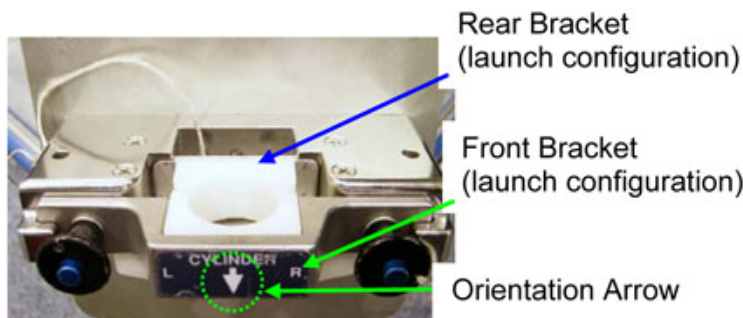

Figure 5.- Oxygen Bottle Retaining Bracket.
- 2.2 Rotate and install rear bracket in recessed slot. Refer to Figures 5, 6, 7.